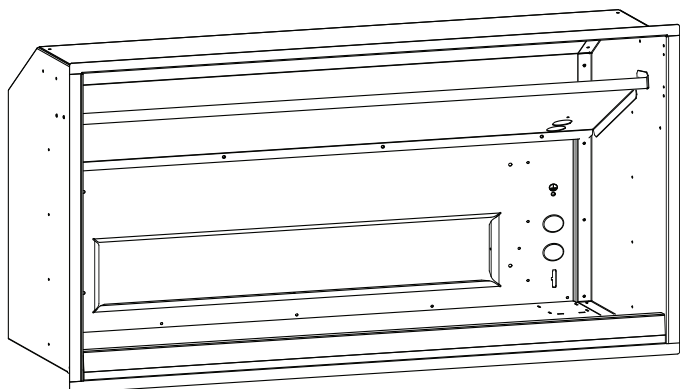

Figure 2: Remove core partition
- d) Remove core partition (*Figure 2*).